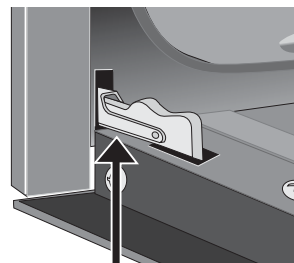

Figure 41: Door hinge locks
2. Pull the door hinge locks on both left and right door hinges up from the oven frame completely towards the oven door (See Figure 41). A tool such as a small flat-blade screwdriver may be required to unlock the hinge (Figure 42).
4. Push the door hinge locks up towards and into the oven frame on both left and right oven door hinges to the locked position (See Figure 41).